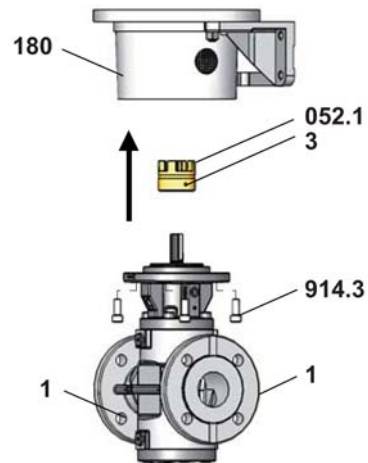

Fig. 3
5. Loosen the connecting screws 914.3 between the pump and pump bracket 180 and remove the pump bracket, see Fig. 3, page 35.